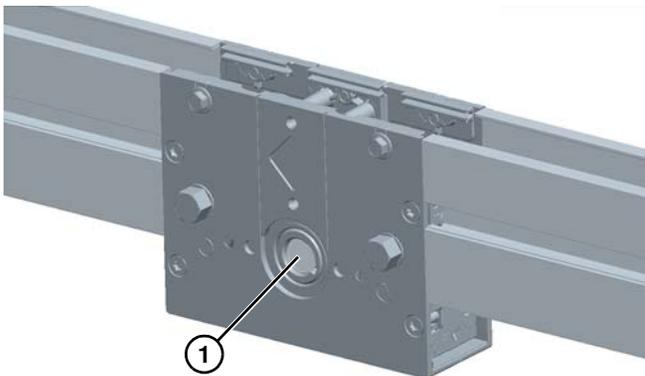

Figure 36
9. Using a punch and hammer, carefully tap the shaft (Figure 36, item 1) out of the mid drive assembly.